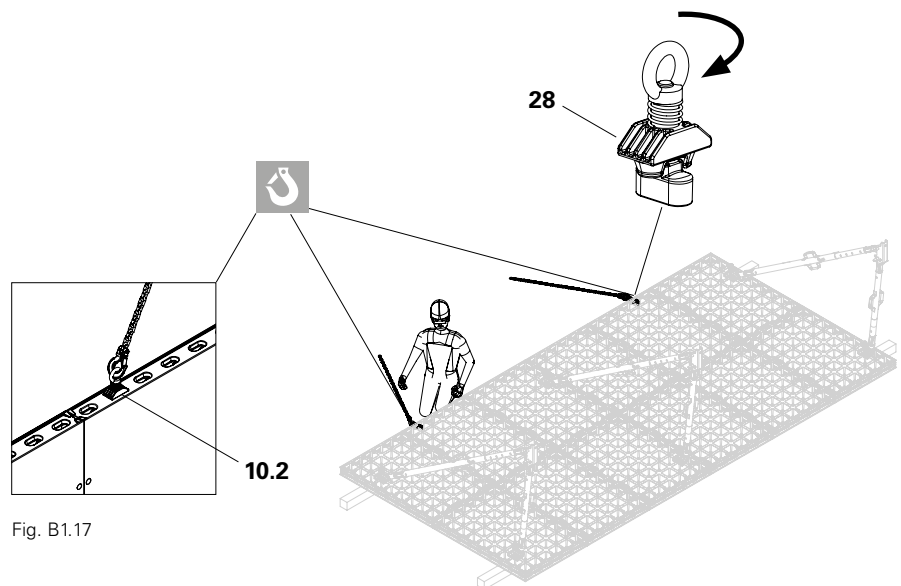

Fig. B1.17
1. Insert the DUO crane eye (28) into the connector pocket (10.2) of the DP panel, press down and turn through 90°. Up to 12 DP panels can be moved. (Fig. B1.17)